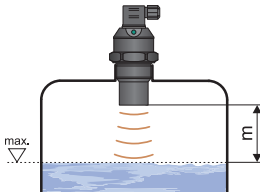

Fig. 2: Dead zone of the device
- d) In compliance with the measuring principle, no signals **reflected in the area directly below the device** (dead zone) can be evaluated. The dead zone (Fig. 2) determines the minimum distance possible between the device and the highest level. The minimum distances to the medium are listed in the chapter "Technical specifications".